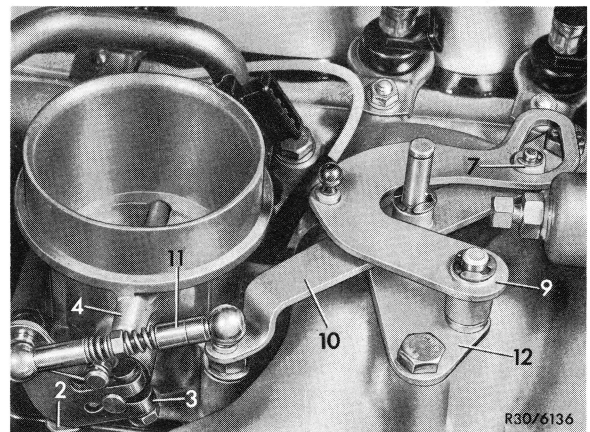

Fig. 2
Push throttle valve lever (3) against idling speed stop (2). Adjust connecting rod (11) in such a manner that the regulating lever (10) rests with roller (7) against the end stop of the gate shift lever (9) (Fig. 2).